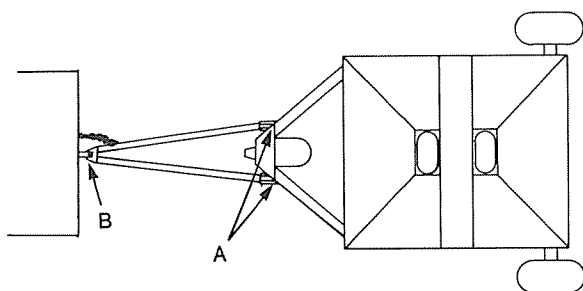

Figure 11
- Disconnect the Airseeder from the truck (tractor by removing pins A & B (See Fig. 11)) and unlock castor wheel. Remove tow hitch on 6240 & 6300.